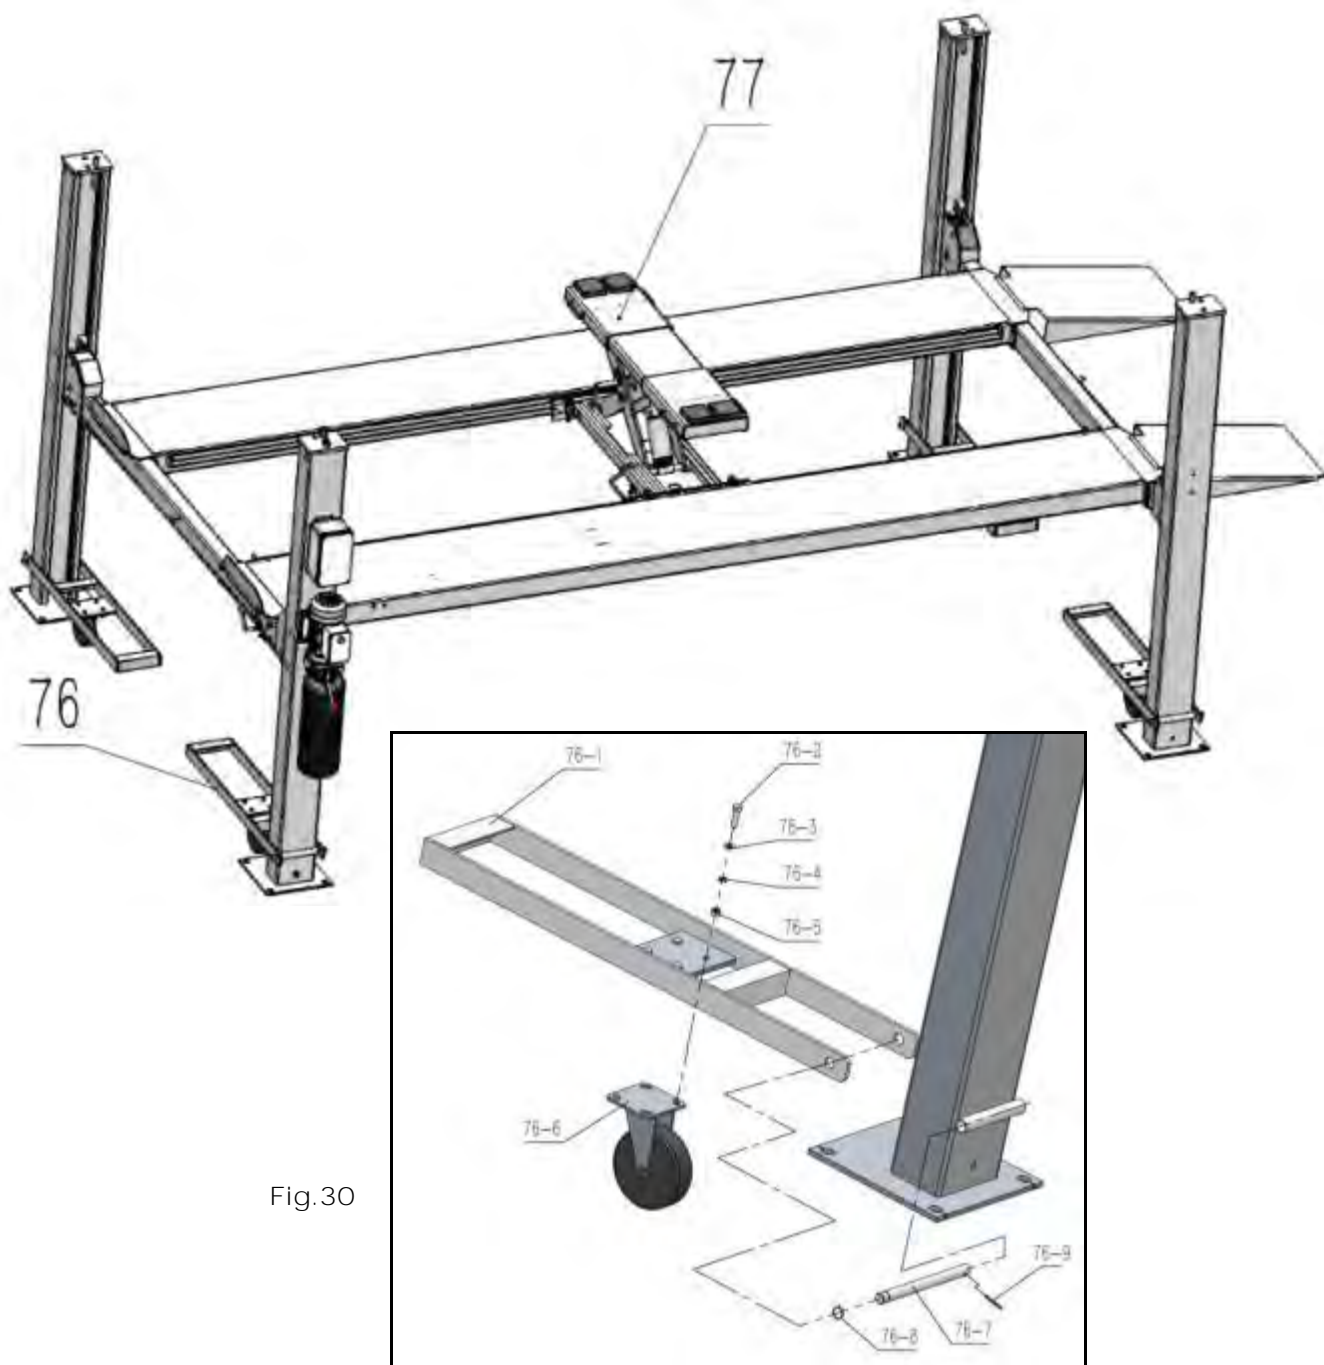

Fig.30
1. Install optional caster kits or jack(assembly body)-----**optional** (See Fig. 30)